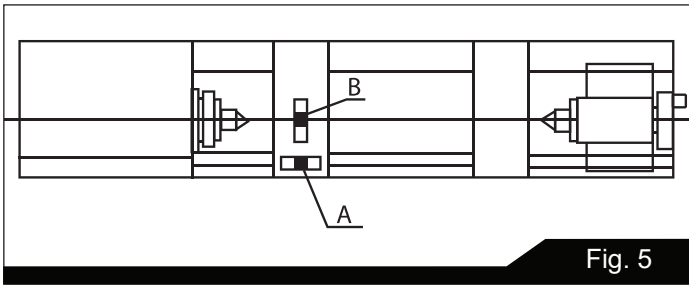

Fig. 5
9. Use a machinist's precision level on the bed ways both front to back and side to side, as shown in Figure 5. Take the reading in one direction every ten inches. Make sure the ways are clean and free of any debris before placing a level upon them.
10. Deviation over bed length (see Figure 5):